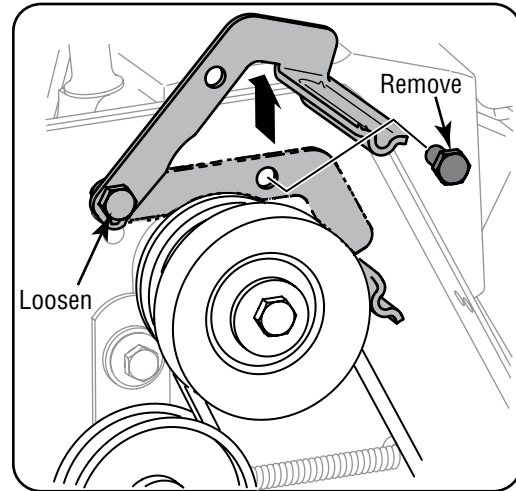

Figure 7-3
3. Loosen the bolt shown in Figure 7-3 securing the belt keeper bracket and remove the other bolt. Push the belt keeper bracket up off the engine pulley. Refer to Figure 7-3.